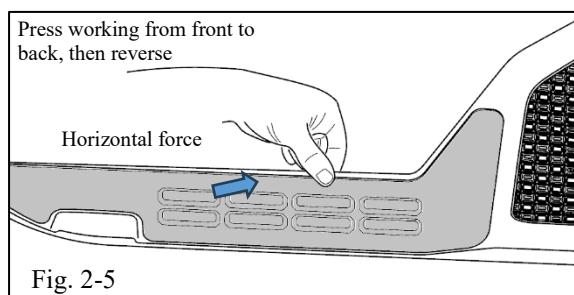

Fig. 2-5
- (f) Again, using 2 fingers, but this time with a force in the horizontal direction, pinch the door panel pocket and Protector in a continuous slow motion along the entire top edge from front to back (Fig 2-5). Once complete, reverse direction and repeat working from back to front.
- (f) Again, as in Fig 2-5, using 2 fingers, but this time with a force in the horizontal direction, pinch the door panel pocket and Protector in a continuous slow motion along the entire top edge from front to back. Once complete, reverse direction and repeat working from back to front